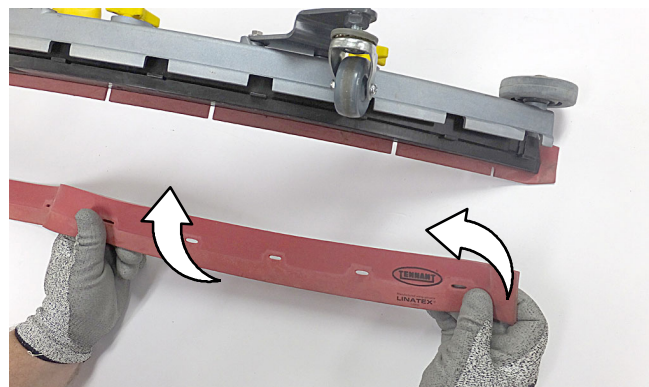

FIG. 90
4. Rotate the rear blade to a new wiping edge and reinstall blade (Figure 90). Make sure to align the slots in the blade with retainer tabs.